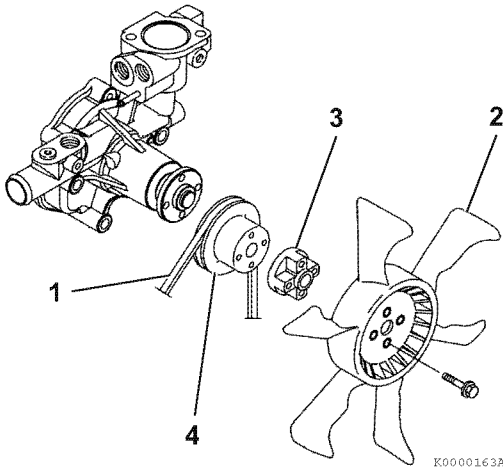

Figure 7-30
12. Reinstall the coolant pump V-pulley **(Figure 7-30, (4))**, spacer **(Figure 7-30, (3))** (if equipped) and engine coolant fan **(Figure 7-30, (2))**.
13. Reinstall the cooling fan V-belt (**Figure 7-30, (1)**). Adjust it as described in *Check and adjust cooling fan V-belt on page 5-9*.